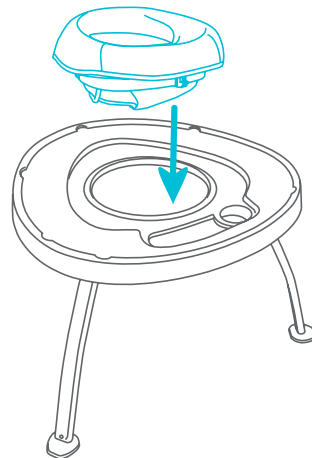

Fig. 1b
- Align the seat to the center opening and press it down firmly. The seat must completely click into to the tabletop (Fig. 1b).